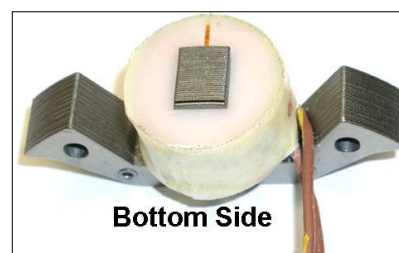
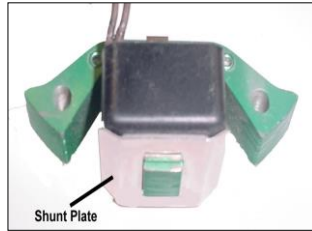

Fig. 4
Fig. 5
- Fold the wires towards the outside and route them down and under the frame. (Fig 4) If the old coil had shunt plates (Fig. 5), you MUST use the new shunt plate provided with the new coil.